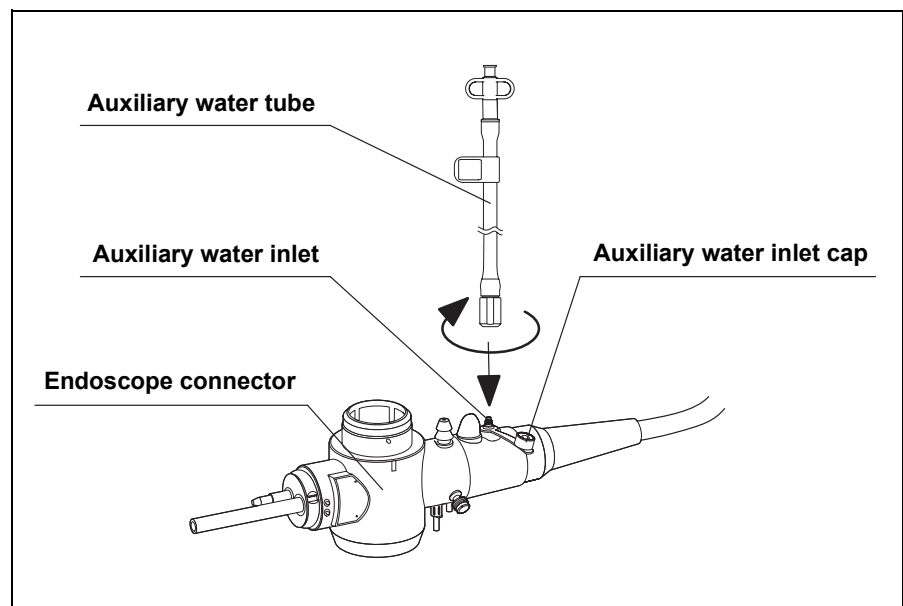

Figure 3.19
8. Open the auxiliary water inlet cap (for endoscopes with auxiliary water feeding only, see Figure 3.19).
9. Connect the auxiliary water tube to the auxiliary water inlet on the endoscope connector and turn it clockwise until it stops (for endoscopes with auxiliary water feeding only, see Figure 3.19).